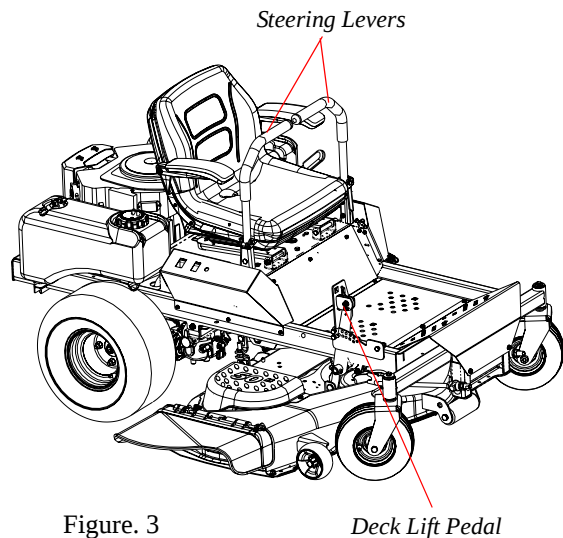

Figure. 3
3. **Left and Right Steering Levers:** (See Figure 3.) These hinged levers open out to the side in any position to permit the operator to be seated or to leave the mower's seat. The operator, when seated, can pull the levers up to the operating position, a comfortable forearm's length away. These levers control all of the movements of the mower. Pushing both levers forward causes the mower to move forward. Pulling both levers back causes the mower to move backward. Pushing one lever ahead of the other lever causes the traction wheel on the side where the lever is ahead to rotate faster than the other traction wheel, making the mower turn toward the side where the lever is behind. When one lever is pushed forward and the other lever pulled back the same amount, one traction wheel will turn in reverse and the mower will turn within its own length.
6. **Deck Lift Pedal:** (See Figure 3.) Located on the right front corner of the foot platform. Raise the mowing deck to the transport position, by pushing the upper part of the pedal. To lower the mowing deck, push on the upper part of the pedal to release, and lower it to the desired position set by the pin.